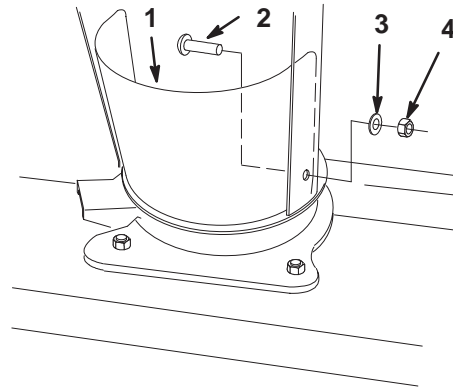

Figure 6
10. Install discharge chute assembly and cover onto housing with (3) 5/16 x 3/4" carriage bolts (heads to inside), (3) 5/16" washers and (3) 5/16" locknuts (Fig. 6).